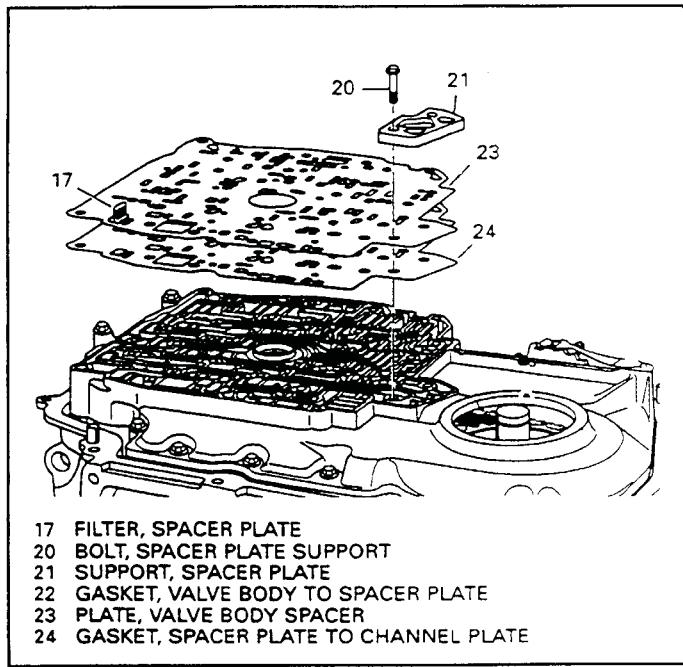

Figure 173
14. Install a new spacer plate to channel plate gasket (24) onto the channel plate as shown in Figure 173.
15. Install the spacer plate (23) on top of the gasket and ensure that the filter screen (17) is in place. (See Figure 173).
16. Install the spacer plate support (21) and the two bolts (20) onto the spacer plate. Hand start the bolts to finger tight.
17. **Torque the two spacer plate support bolts (20) that just went in to 11 ft.lb. These two bolts pull the driven sprocket support oil passages against the channel plate.**